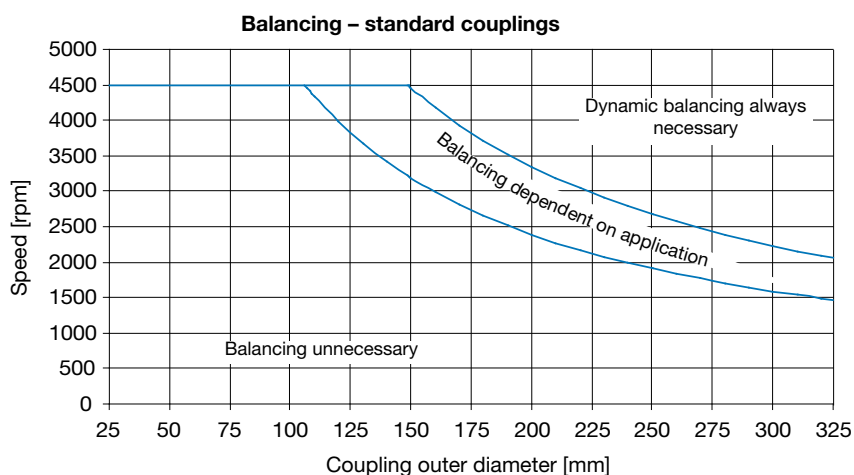

Fig. 106
- Coupling circumferential speed (Fig. 106)
Figs. 106 or 107 only show reference values as recommendations for balancing.